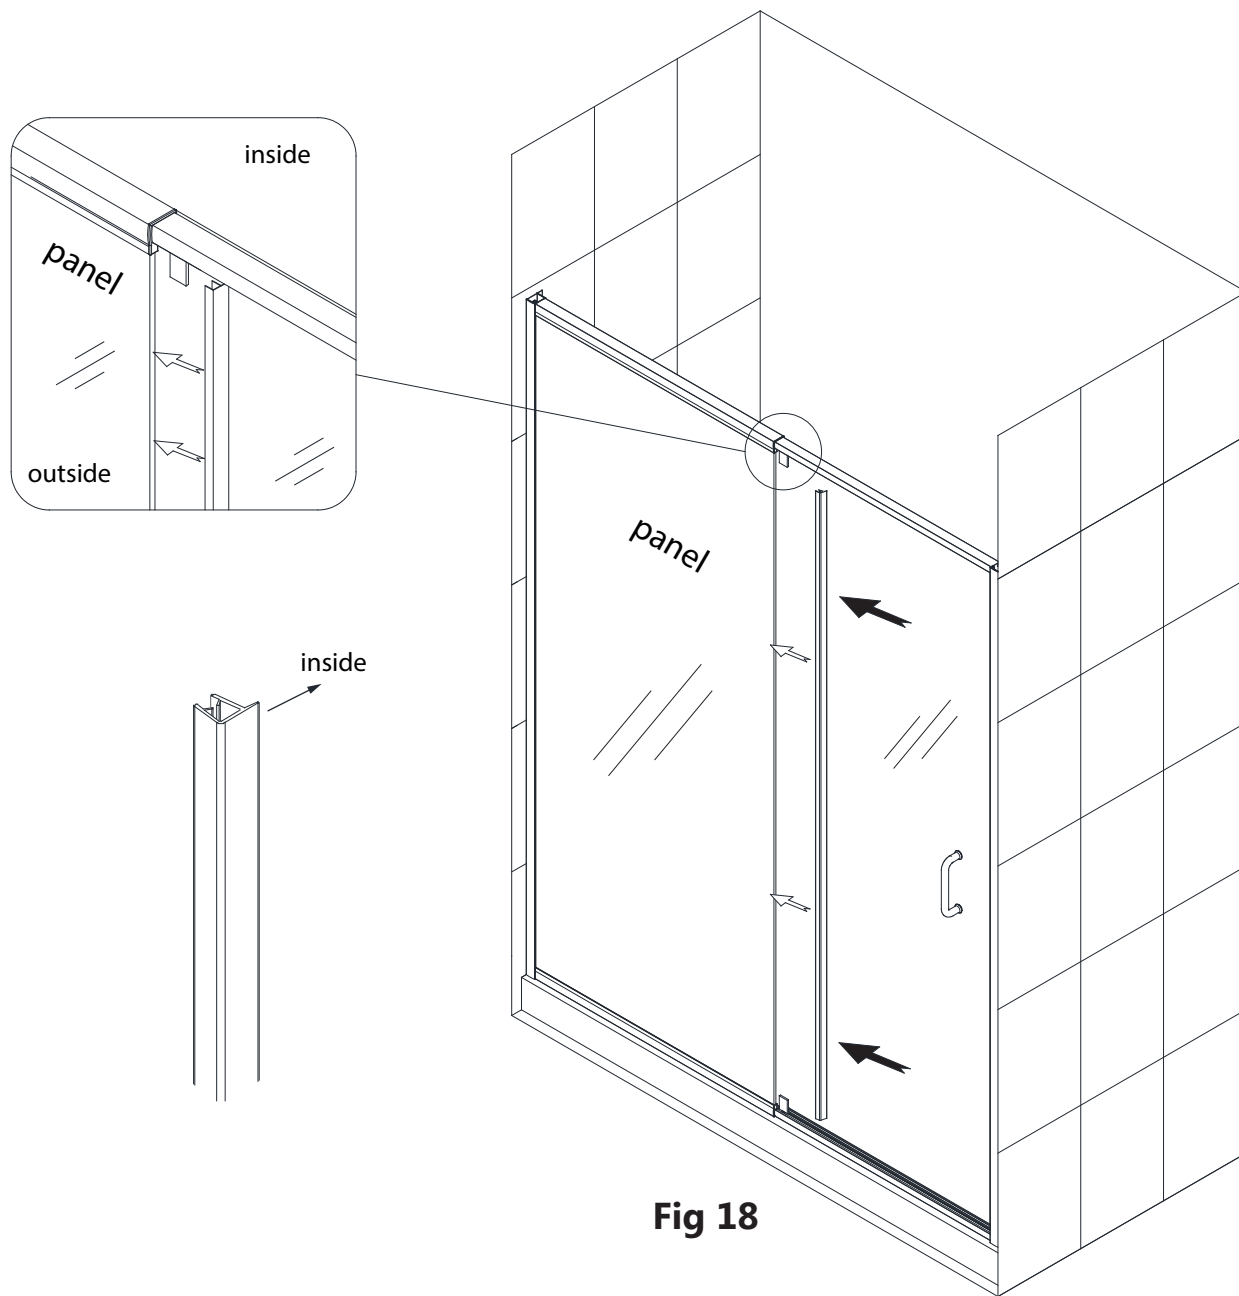

Fig 18
18. Attach the **Flanged Anti-Water Strip (#07)** to the vertical edge of the **Stationary Panel Glass (#02)** with the flange facing into the shower. **(Fig 18)**